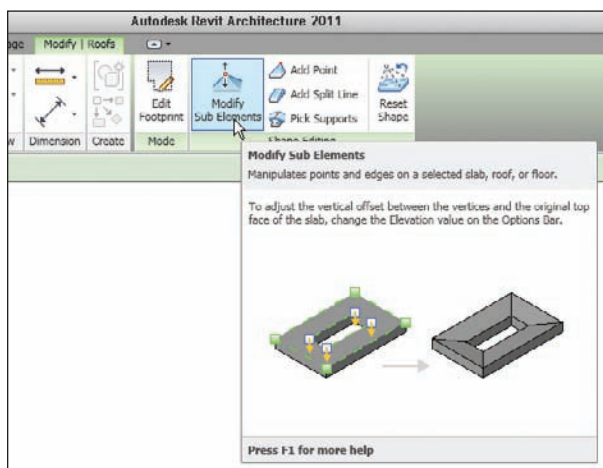

FIGURE 7.13 Click the Modify Sub Elements button to gain access to the points on the roof.
27. Select the roof. Notice there is a node where you picked the point. To access the node, click the Modify Sub Elements button on the Shape Editing panel, as shown in Figure 7.13.